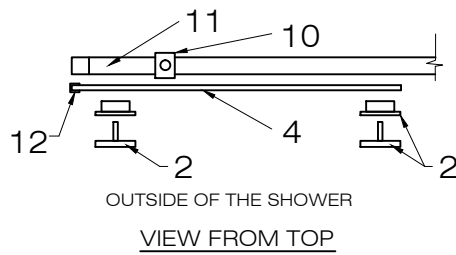

FIG.3
4. Note that the openings on structural rail for the fixed panel holders have an elliptic shape. This allows the holder screws inside the rail to move to the left and right. This will help in accommodating an uneven wall condition. Once you find the right position tighten the allen key and cover to fixate the fixed panel onto the rail. [SEE FIG.3]
5. Place seal strip (#12) to the fixed panel on the side that sits against the wall. [SEE FIG.3]